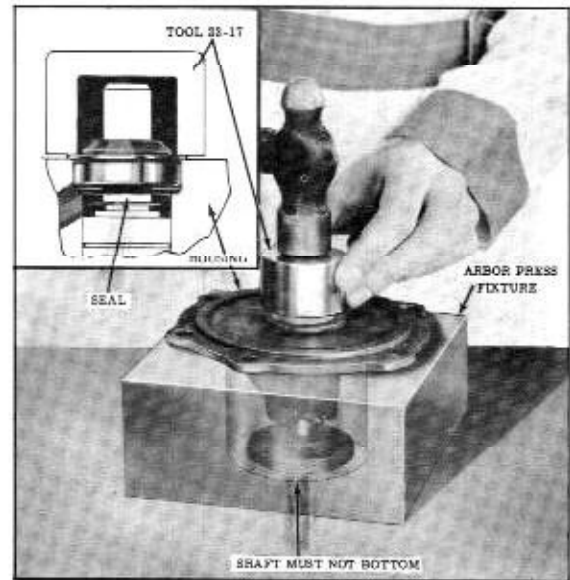

Fig. 8-63 Installing Seal
4. Coat the outer seating diameter of a new seal with C.P. No. 9 Sealer and install seal using Tool 23-17 as shown in Fig. 8-63.